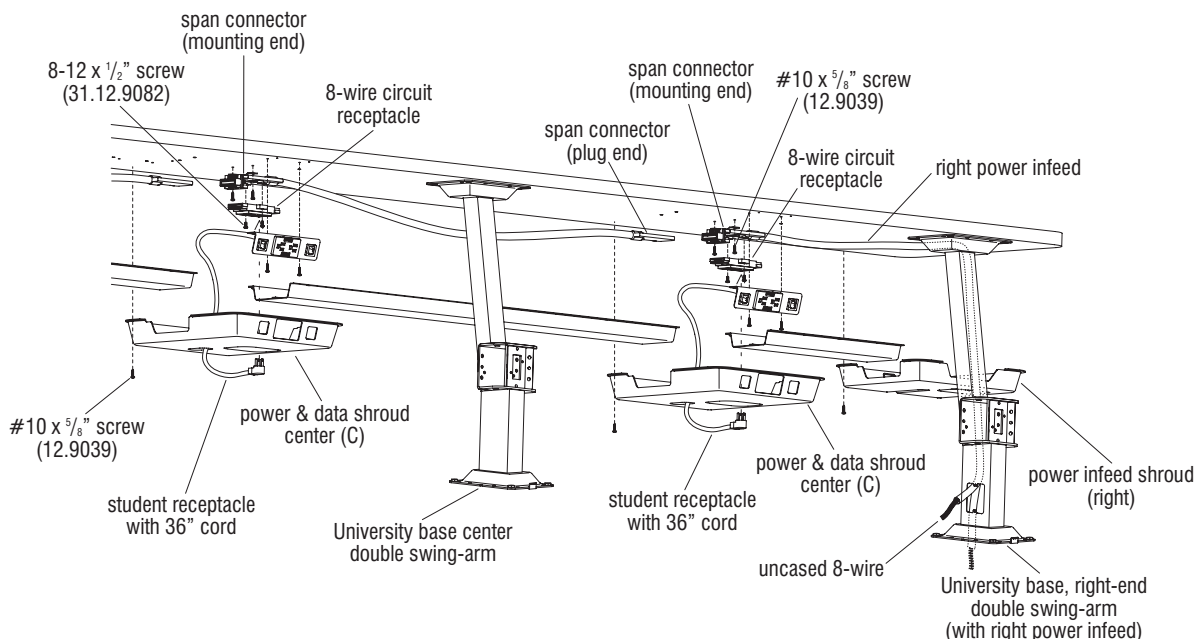

Figure 15 - Right Power Infeed with Single Swing-arm Ends (Power Infeed Detail)
46. At the underside of the University table top, locate the pre-drilled mounting holes, about midway between the two right-most University bases, near the power-infeed location (Figure 15 & Detail A). As illustrated, secure the mounting end of the right power infeed to the underside of the table top with two #10 x 5/8" screws torqued to 25 in/lbs at the appropriate pre-drilled holes (Figure 15, Details A & B).
space-planning layout, continue down the line installing all remaining span connector mounting ends to the table top between bases and clicking the plug ends into the appropriate mounting ends (Figures 15 & 16, Detail B).
48. Follow correct circuit designations and install 8-wire circuit receptacles to the mounting end of the power infeed and all span connectors using two #8-32 x 1/2" screws provided torqued to 20 in/lbs (Figures 15 & 16, Detail B).
50. Locate the mounting holes for the data/receptacle bracket (Details A & B). Install the data/receptacle bracket to the underside of the table top with two #10 x 5/8" screws torqued to 25 in/lbs (Figures 15 & 16).
Data line infeeds may be run up a University base in a different location than power infeed, but will use a power infeed shroud the same as in power infeed locations (Figures 15 & 16). From behind the data/receptacle bracket, snap the appropriate data lines into the data jack adapters.
52. Following the space-planning layout, install student receptacles by first routing the cord through the opening in the data/receptacle bracket, then snap the receptacle into place. Allow the 36" long receptacle cords to hang down until a later step (Figures 15 & 16).
loop back and plug into the circuit receptacle. **"Left (L) power & data shrouds"** have both cut-outs at the bottom and only one cut-out at the right-hand side for power/data trough (Figures 15 & 16).
54. Following the space-planning layout, locate the correct position for the two types of power & data shrouds along the run of table tops. Position each shroud up to the table top and allow the cord of the student receptacle to drop down through the front-most cut-out as illustrated. Both the student receptacle and data jacks, as well as the bottom-facing circuit receptacle should protrude through their appropriate cut-outs in the shroud. Secure all power and data shrouds to the underside of the table top using #10 x 5/8" screws torqued to 25 in/lbs in pre-drilled holes at the underside of the table top (Figures 15 & 16, Details B & C).
55. At the power & data shroud locations, loop the hanging cord and insert the plug end of the student receptacle into the bottom-facing circuit receptacle. Push any excess cord back into the shroud and out of the way (Figures 15 & 16).
56. At the power infeed location, position the power infeed shroud (right-end, with cut-outs on only the left side for power/data troughs) up into position, making sure the troughs fit into it correctly and that the shroud back mates correctly with the base's upper mounting flange. With a pencil, mark the mounting hole locations, then use a 1/8" diameter drill bit and pre-drill to 1/2" depth, taking care to not penetrate the table top. Install power infeed shroud using #10 x 5/8" screws provided torqued to 25 in/lbs (Figures 15 & 16).